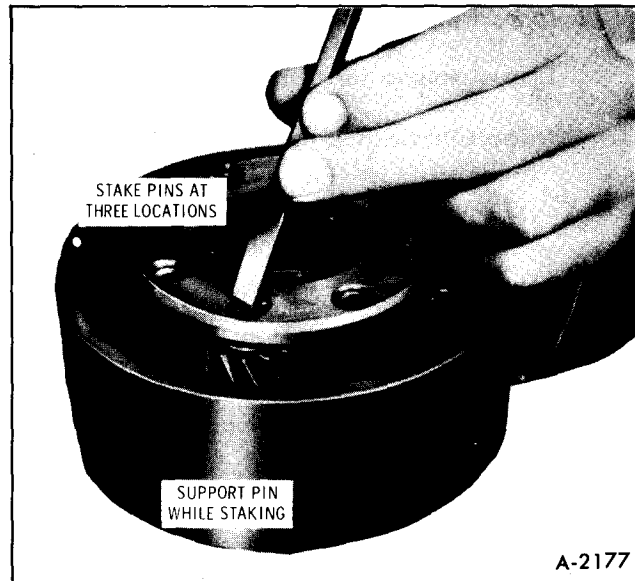

Figure 54—Staking Pinion Pin
10. Using a punch in bench vise for an anvil, stake opposite end of pinion pin in three places with a blunt radius chisel, Figure 54.